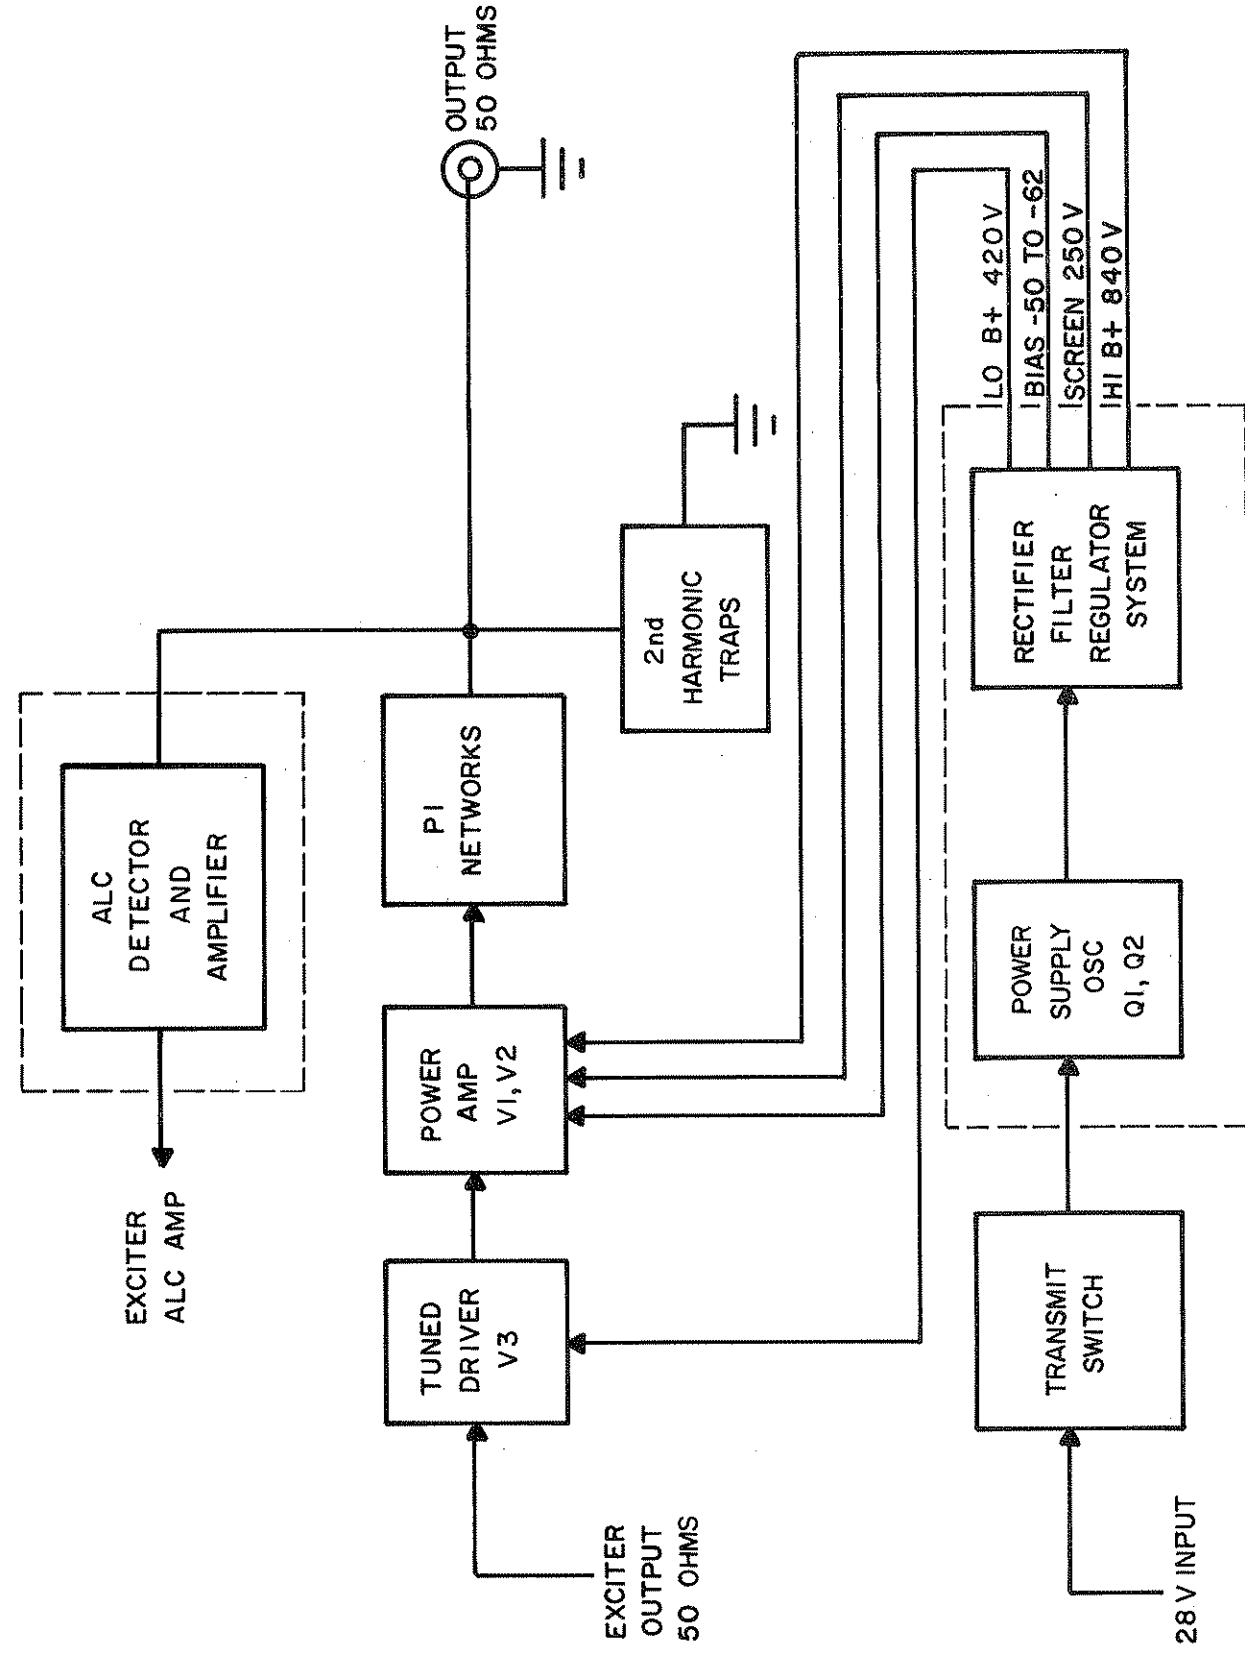

FIGURE IV-2
C. POWER AMPLIFIER/POWER SUPPLY, Figure IV-2